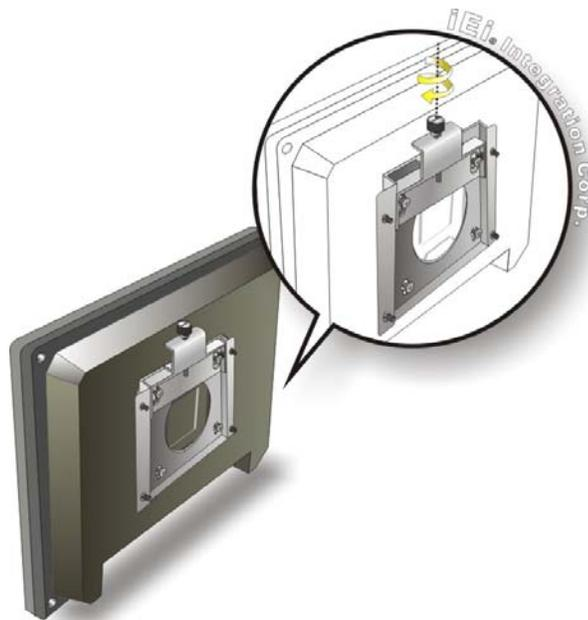

Figure 4-18: Secure the Panel PC
- Step 9:** Secure the panel PC by fastening the captive screw of the wall-mounting bracket. (**Figure 4-18**).